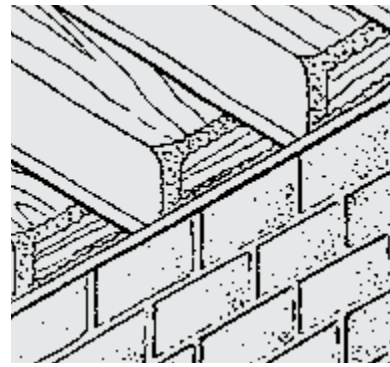

Figure 9: Sealing sill plate/rim joists (maximum 2" [50 mm] thickness) **S I**
Froth-Pak™ Foam Insulation is UL Classified as a foam plastic – UL File R7813, tested at 2" (50 mm) thickness full coverage. With a flame spread index of 25 and a smoke developed index of 350, **Froth-Pak™ Foam Insulation** up to 2" thick can be left exposed without a thermal barrier on sill plates and rim joist headers (Figures 9 and 10).
- Rim joists/sill plate (Figure 9)